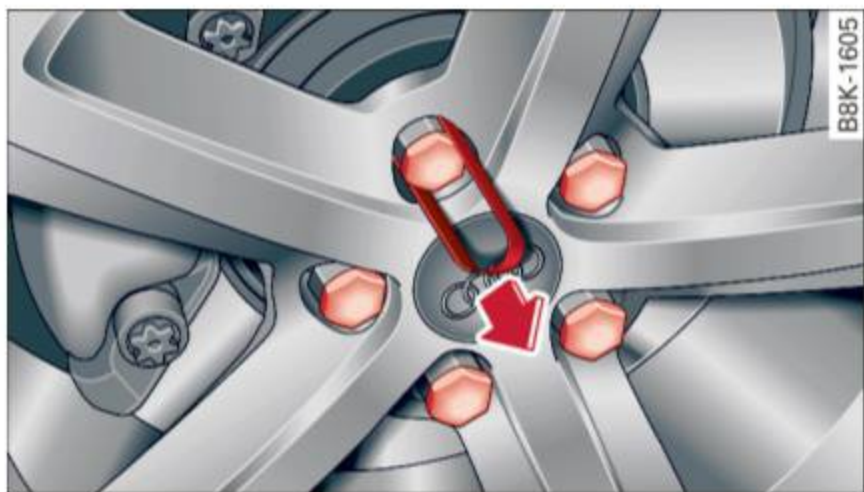

Fig. 175 Changing a wheel: removing the wheel bolt caps
- ▶ Pull on the **plastic clip** to remove the cap ⇒ *fig. 175*.